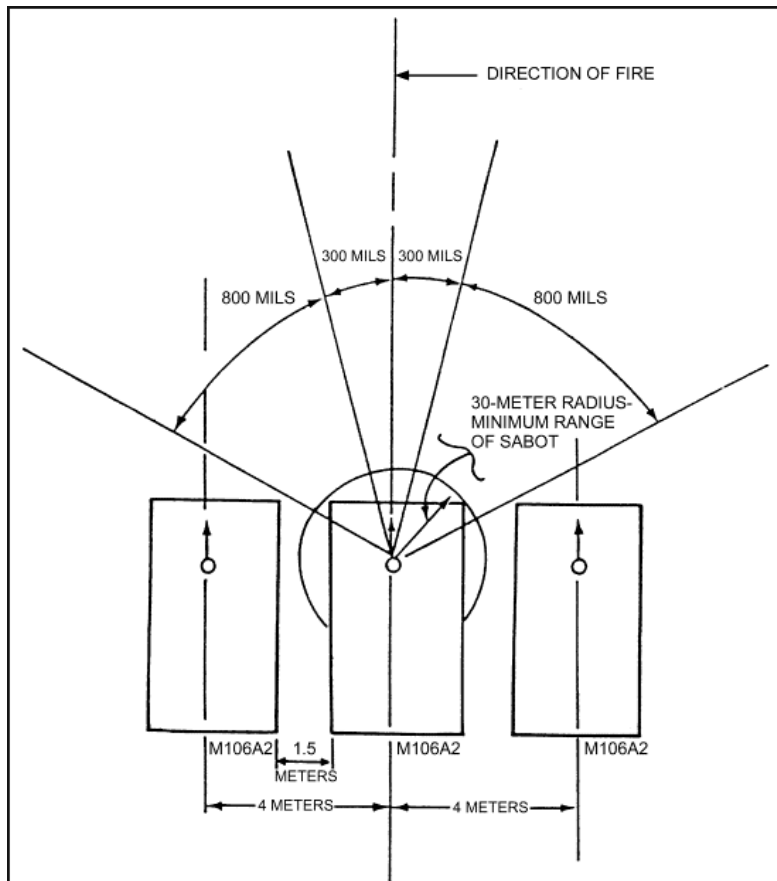

Figure A-18. Large deflection changes.
- (1) Sometimes it is desirable for gunners to observe the impact of the sabot. However, mortars are usually mounted in a defilade position so that a mask exists between the impact area and the firing position. If such a mask does not exist, one can be constructed of target cloth or other suitable material. The mask must be removed when firing direct lay missions.
- (2) A heavy canvas or other suitable material should be placed on the ground to a distance of 15 meters in front of each mortar to catch the sabot. On a permanent sabot range, it is desirable to construct a permanent impact area for the sabot--a sawdust or sandpit covered with heavy canvas would be ideal.
- (3) When positioning the mortars, the lateral distance between the center of the baseplates should not exceed 4 meters. Special corrections can be applied to fire for effect if the weapons are more than 4 meters apart, but it is unrealistic to habitually apply special corrections during training.
- (4) When using the sabot with each of the weapons separated by 3.5 to 4 meters, some special techniques must be used. Aiming posts should be identified by squad to preclude a mix-up of aiming posts between two mortars. Numbers, colors, or any other easily discernible method can be used.
- (5) Problems can be encountered when traversing carrier-mounted mortars during large deflection changes of more than 300 mils left or right of direction of fire (Figure A-18). The carriers should be traversed to avoid the possibility of hitting adjacent carriers with the sabot. Due to the minimum range of the sabot, it must be fired only over the rear of the carrier with the ramp in the up position.